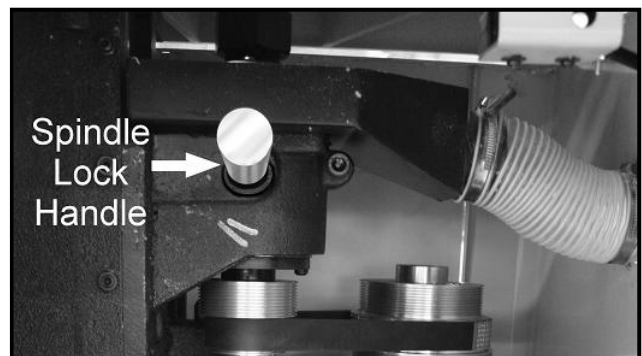

Figure-6 Spindle lock handle
*Unlock the spindle before turning on the shaper. See figure-6.*
Unlock the spindle by pulling the spindle lock handle out and turning it 90°. See figure-6 on page-9.
*Unlock the spindle before turning on the shaper. See page-9, figure-6.*